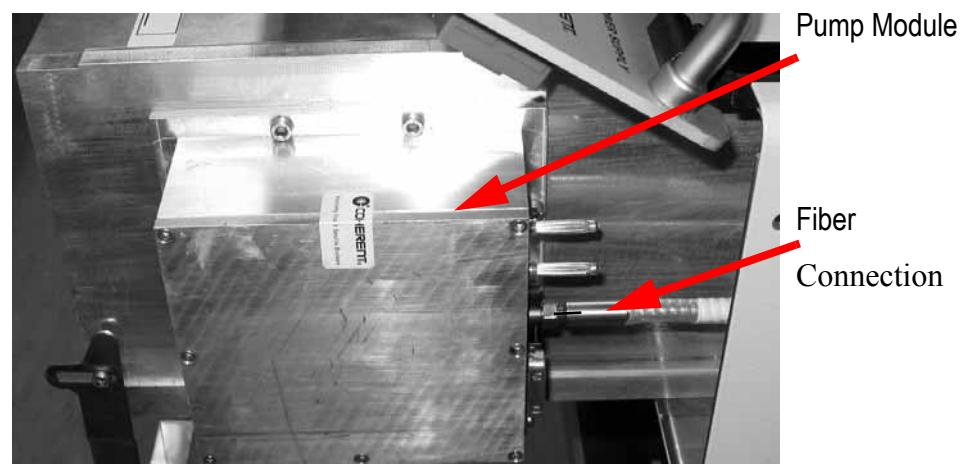

Figure 3-13. Attach the Fiber to the Pump Module
5. Attach the first fiber to the pump module as shown in Figure 3-13. Use the 8 mm torque wrench from the Paladin Advanced Maintenance Kit. Align the black line on the fiber so it points 180° away from the middle of the pump module. Discard protective cap